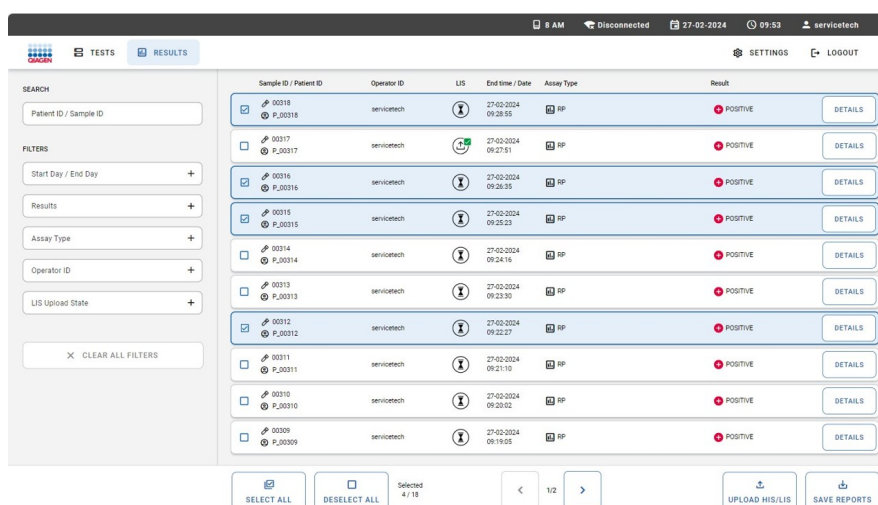

Figure 78. Selecting multiple test results for manual upload to HIS/LIS.
2. In the result overview, select one or multiple test results by tapping on the checkbox in the first column (Figure 78).